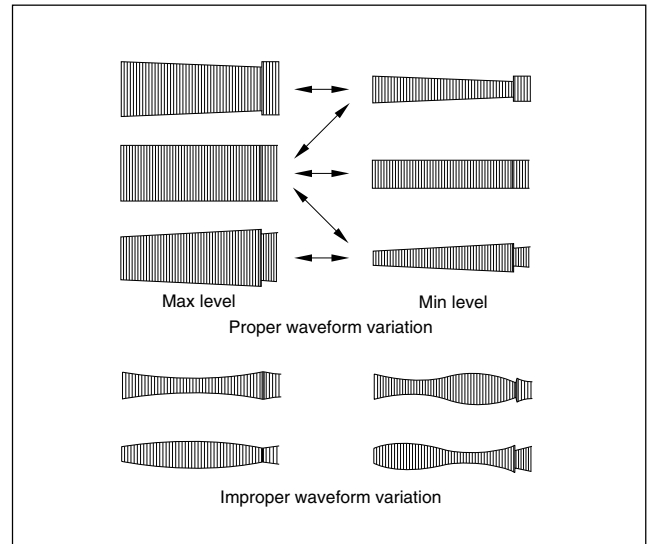

Fig. 2-3-1a
- (1) Play back the alignment tape (A1).
- (2) Apply the external trigger signal to D.F.F (E), to observe the V.PB FM waveform at the measuring point (D).
- (3) Set the VCR to the manual tracking mode.
- (4) Make sure that there is no significant level drop of the V.PB FM waveform caused by the tracking operation, with its generally parallel and linear variation ensured. Perform the following adjustments when required. (See Fig. 2-3-1a.)